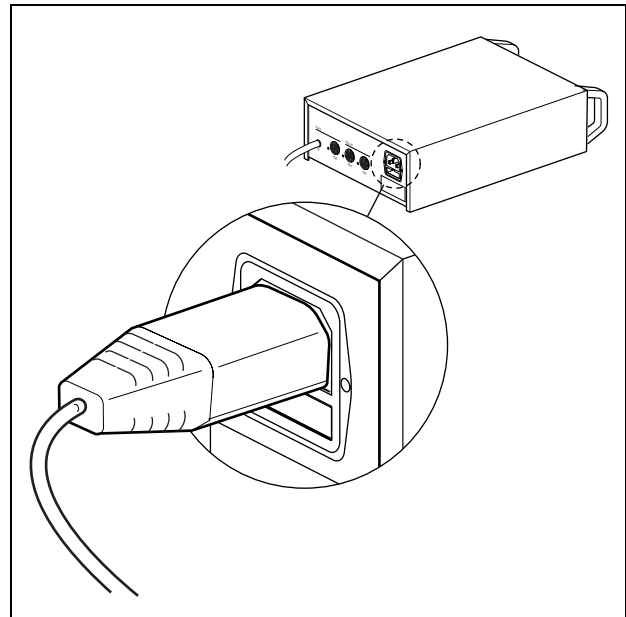

figure 34.5: Power supply
- 3 Connect a locally approved power cable to the extension power supply (refer to figure 34.5).